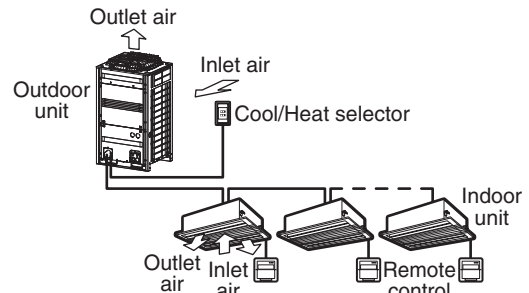

figure 1
Outdoor units (Refer to figure 1)
• Names and functions of parts (Refer to figure 1)
(figure 1 shows system with Cool/Heat selector)
- In contradistinction to actual operating situations, the display on figure 1 shows all possible indications.